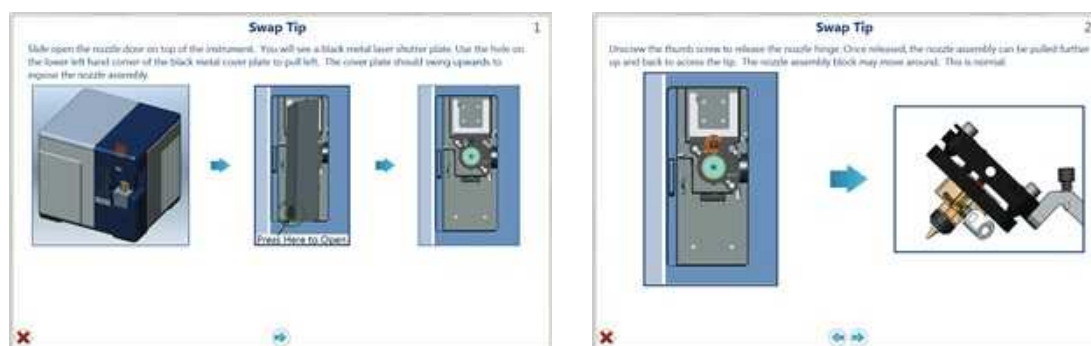

Fig. 99. Nozzle swap wizard window.
1. On the Setup and Maintenance tab select **Swap Tip**. The Swap Nozzle Tip wizard will open (Figure 99). Follow the instructions indicated by the wizard.